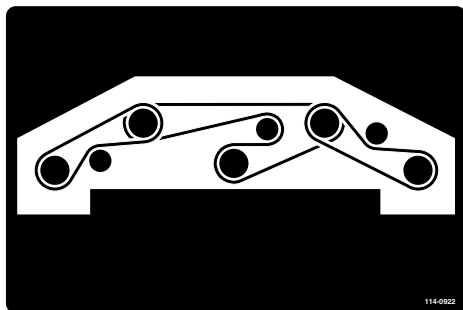

Figure 84
6. Route the new belt around the spindle pulleys and idler pulley assembly as shown in Figure 84.